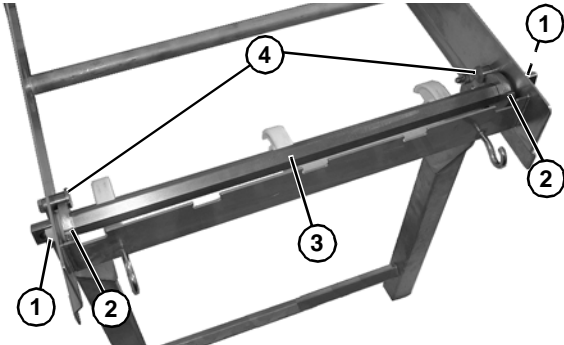

Figure 18
- Slide the tip up sleeves (**Figure 18, item 1**) and stop keys (**Figure 18, item 1**) outward on hex shaft assembly (**Figure 18, item 3**) until the sleeves seat in the holes of the frame and stop keys are seated against frame stops (**Figure 18, item 4**).